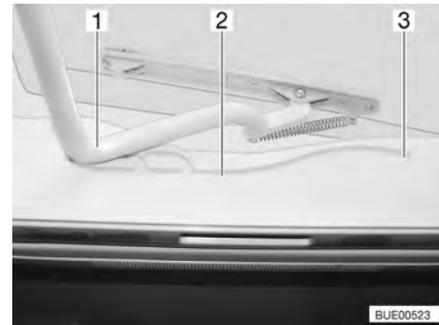

Fig. 74 Heki skylight, guide
- Pull the bar (Fig. 74,1) in the guides (Fig. 74,2) to the rearmost position (Fig. 74,3).
- Use both hands to push the bar (Fig. 74,1) slightly upwards.
- Pull the bar in the guides (Fig. 74,2) to the desired position.